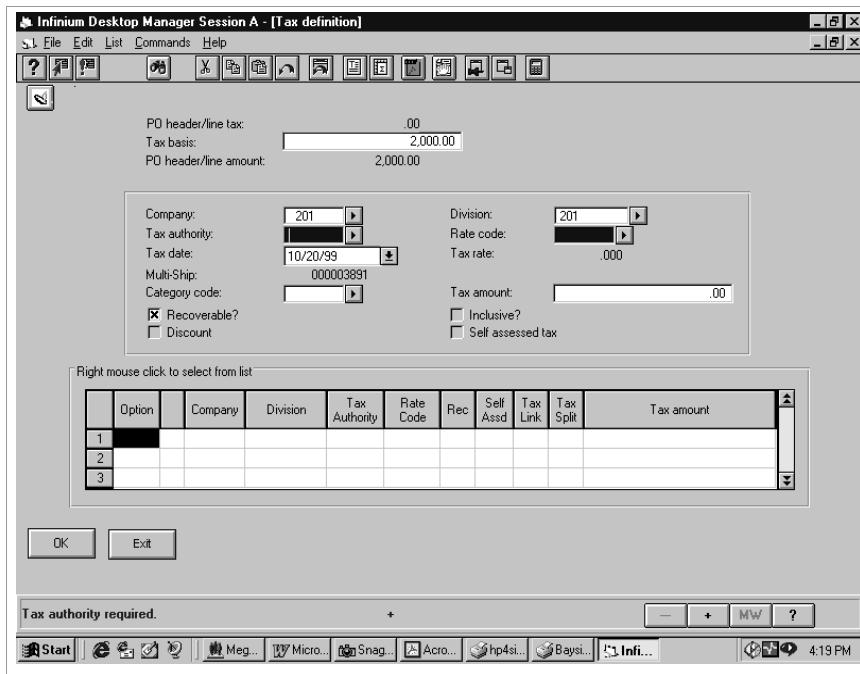

Figure 6-10: Tax Definition screen
- 5 Specify **Tax** to create a new tax additional charge. Press Enter. The system displays the Tax Definition screen shown in Figure 6-10.